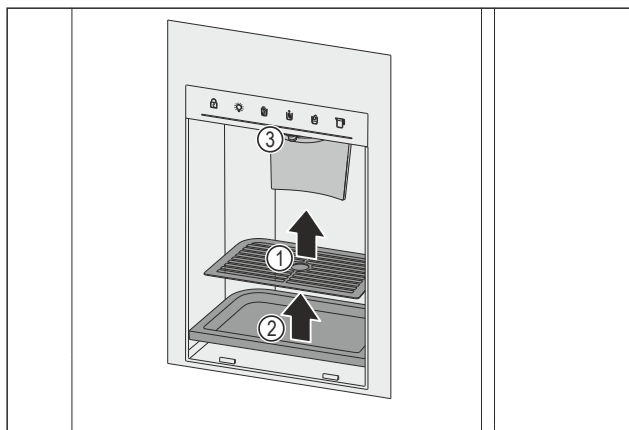

Fig. 154 Removing the drip grid and drip pan
- ▶ Remove the Fig. 154 (1) drip grid.
- ▶ Remove the Fig. 154 (2) drip pan.
- ▶ Clean the drain Fig. 154 (3) and the surrounding area with a soft, clean cloth, lukewarm water and some dishwashing detergent.